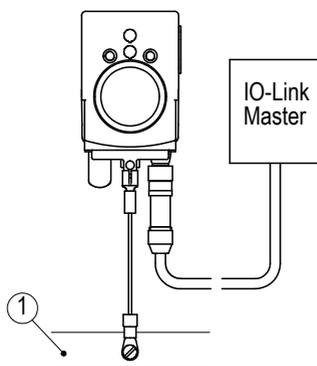

Fig. 7: Ground bar
Install the ground connection ③ onto the protective earth conductor potential between the plug connectors (see Fig. 6). Use 6.3 mm flat connectors or cable lug with short strands 2.5 ... 4 mm² (not in the scope of delivery). For multiple position indicators we recommend connecting the grounding to a ground bar ① (see Fig. 7).